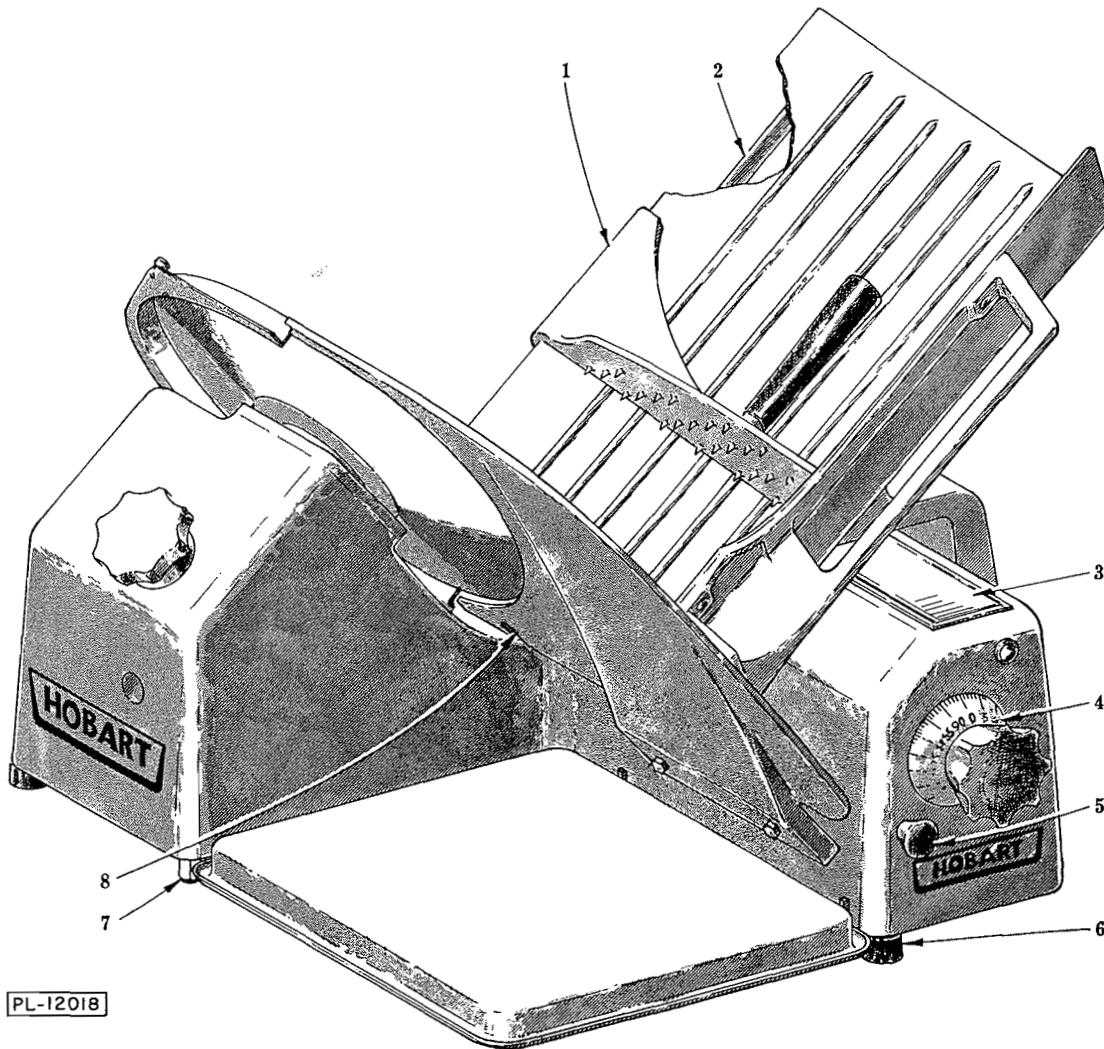

Fig. 1
When the machine is packed for shipment, the three rubber feet (6, Fig. 1) and the one helper foot (7, Fig. 1) are removed and sent along in a cloth bag. The feet can be readily reassembled. Install the helper foot to the end of its thread at the corner of the base as shown (7, Fig. 1). The helper foot does not touch the counter or table and prevents the slicer from tipping.
Before making electrical connections, CHECK THE SPECIFICATIONS ON THE NAME PLATE (3, Fig. 1), TO MAKE SURE THEY AGREE WITH THOSE OF YOUR ELECTRICAL SERVICE.
The knob or dial (4, Fig. 1) adjusts the thickness of the slices cut. The numbers on the dial indicate actual measurements in .10". For example when setting dial at .25, slice would be 1/4" thick.
This machine has been designed so a minimum effort is required to hold and slice, pieces of various shapes and sizes. The shape of the carriage and inclined position make it unnecessary to use holding devices for large items of regular shape, such as cold boiled ham, loaf meats and picnic cuts. For holding odd shapes or short end pieces, use the meat grip (1, Fig. 1). Hold the handle in your right hand, and press the grip down on the meat at a convenient location. The carriage can then be moved back and forth with the same hand that holds the grip. The left hand is then free to receive the slices as they come from the knife. The slices may be stacked on the tray surface which is easily kept clean. Other trays or platters may be used if so desired. The slicer is turned "ON" and "OFF" by the switch (5, Fig. 1) (pull to start, push to stop).
6.4 Unscrew the thumb screw on the sharpener until the sharpener slips upward into the slot (8, Fig. 1) at the bottom of the gage plate. Push the sharpener firmly upward with the right hand to remove any rocking tendency. Tighten the thumb screw with the left hand.
Keep the meat grip slide rod (2, Fig. 1) clean but do NOT lubricate it.